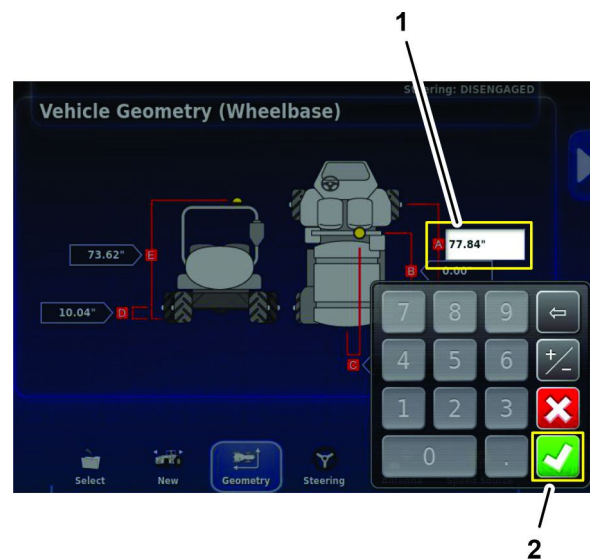

Figure 189
1. Press the front and rear axle centerline icon (A), use the on-screen keypad to enter the measurement that you recorded in the vehicle-geometry form of Measuring the Vehicle Geometry (page 82), and press the confirm icon (Figure 189).